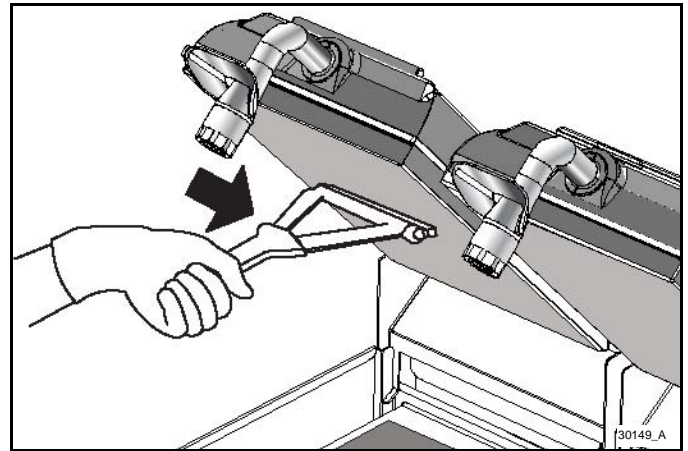

Figure-135
44. Squeegee the air bubbles and wrinkles out of each release sheet. See Figure-135.